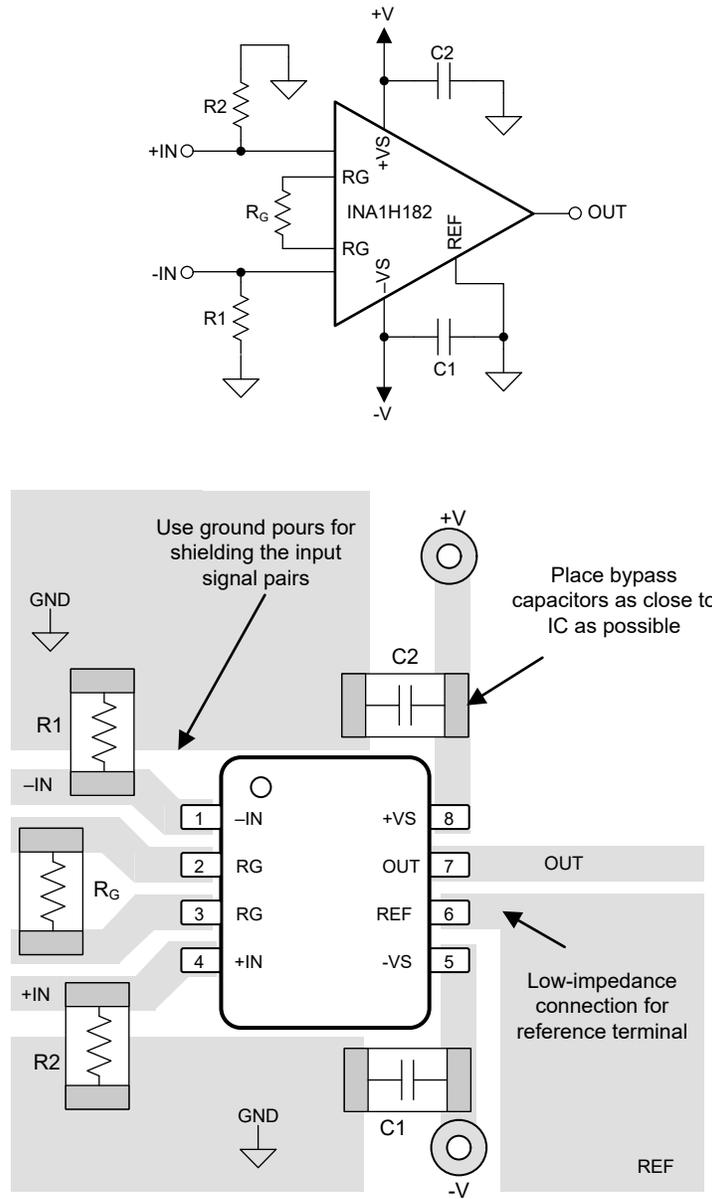

Figure 7-8. Example Schematic and Associated PCB Layout
- Place the external components as close to the device as possible. As shown in Figure 7-8, keep R_G close to the pins to minimize parasitic capacitance.